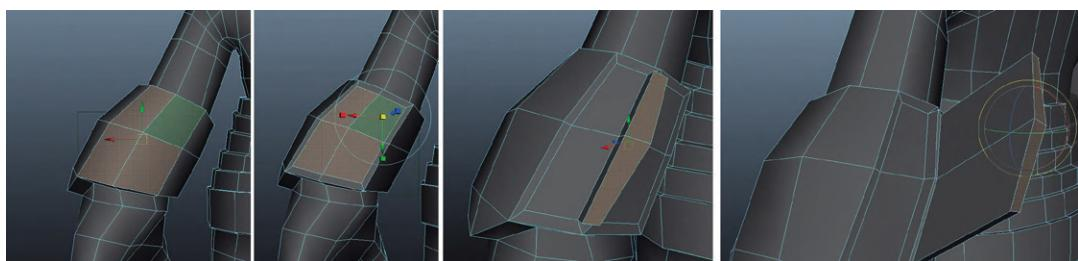

FIG 4.80 Completing the forearm armor.
Step 98: Further refine the forearm armor as per the style sheets (Fig. 4.80).